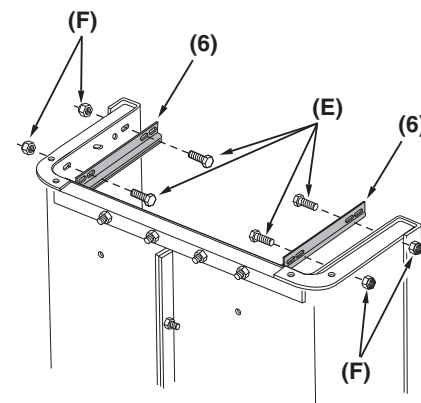

Figure 4
**STEP 4 (SEE FIGURE 4):** Attach the tailgate guides (6) using four 1/4" x 3/4" hex bolts (E) and 1/4" nylock nuts (F). **Do Not Tighten!**